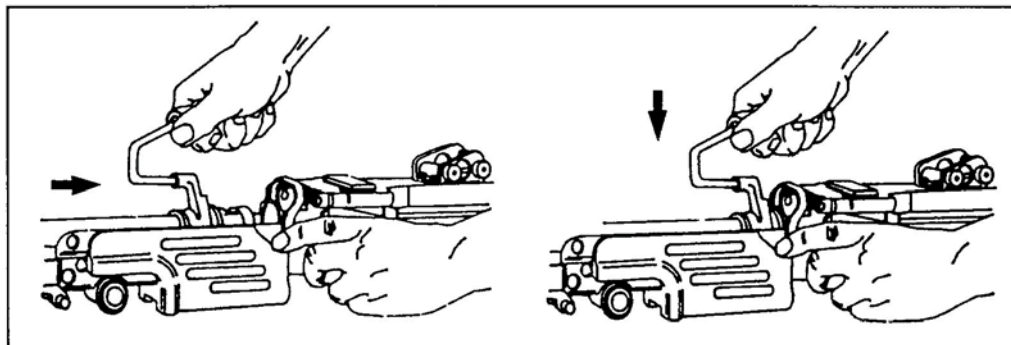

Figure 26. Replacement of the barrel.
- (1) Depress the barrel locking lever with your left hand (Figure 26).